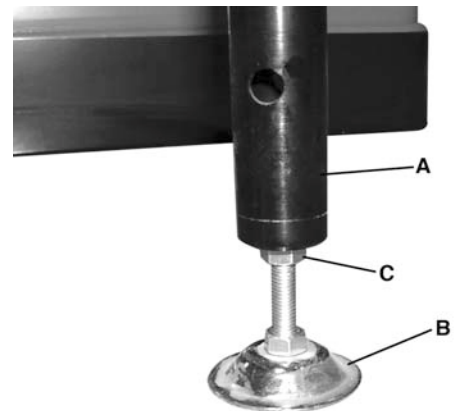

FIGURE 3
- 2) Install the adjustable foot (B) Fig.3 to the support leg (A). To install, screw it into the bottom of the support leg. At this point, do not tighten the hex. nut (C) against the bottom of the support leg.
- 2) Adjust the support leg adjustable foot (B) Fig.3 in or out to adjust height of support leg until the front edge of the router table is perfectly level with the table. Once properly adjusted, tighten the hex. nut (C) Fig.3 against the bottom of the support leg (A) as shown in Fig.3.